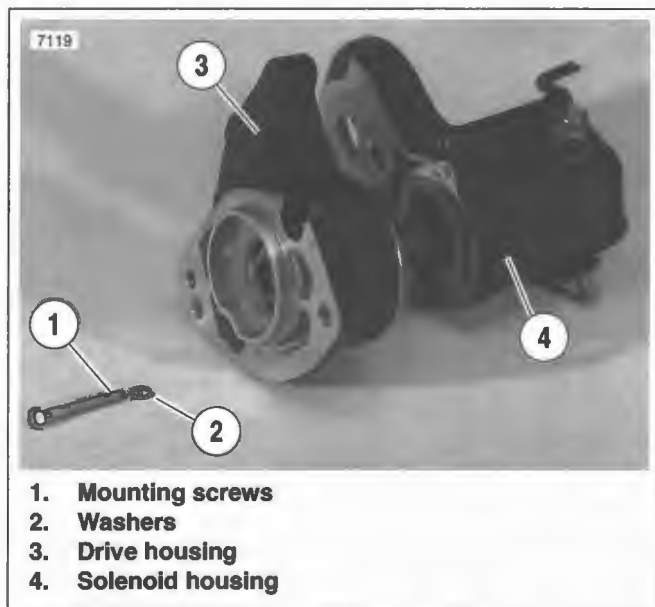

Figure 5-16. Starter Drive Assembly
16. See Figure 5-16. Remove two drive housing mounting screws (1) and washers (2). Remove drive housing (3) from solenoid housing (4).